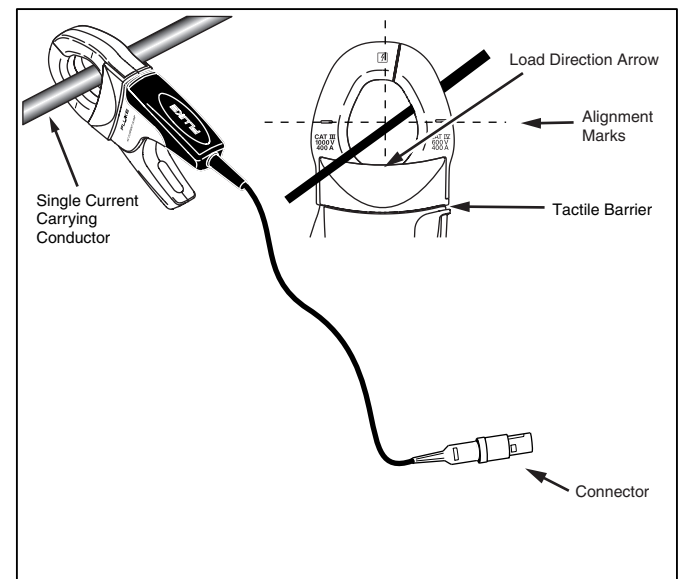

Figure 1.3140R Setup
- Do not hold the Current Clamp anywhere beyond the tactile barrier, see Figure 1.
Observe the following guidelines when making measurements, refer to Figure 1:
To avoid shock or personal injury, keep fingers behind the tactile barrier, see Figure 1.